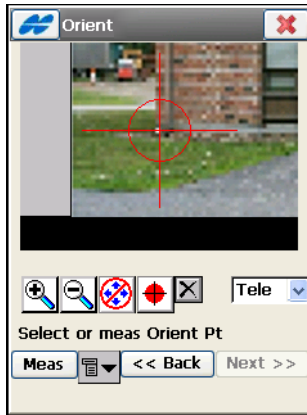

Figure 11-38. Select Orientation Point
- / – enables/disables a pan drag control of the image. When the **Pan** button is disabled, tap on the image to choose the orientation point. The image zooms to this point and displays a crosshair. The position of the crosshair can be adjusted (see Figure 11-38).